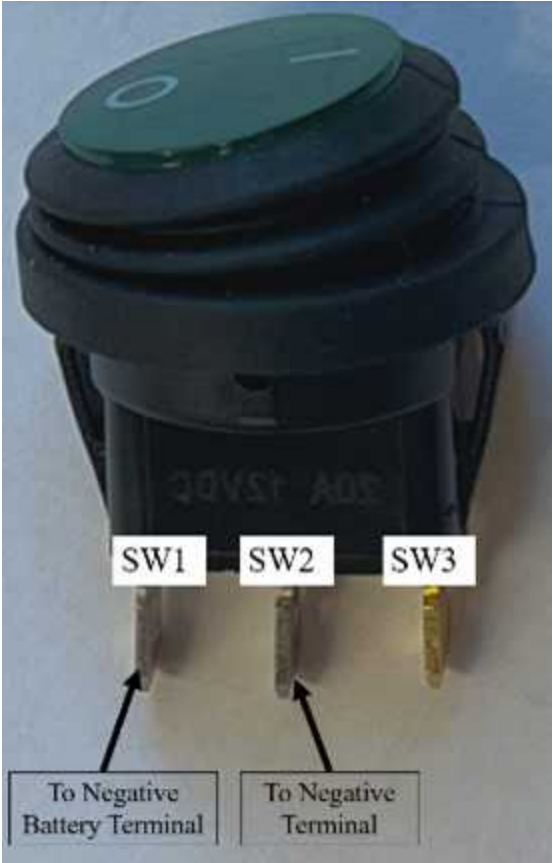

Figure 7. Rocker switch connections
11.10 Connect the spades on the pre-soldered wires to the SW1 and SW2 positions on the rocker switch (Figure 7).